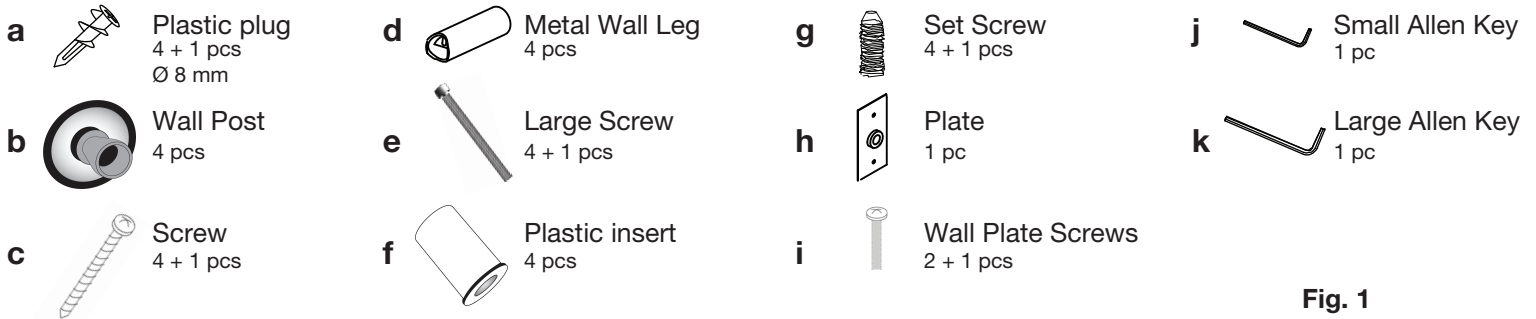

Fig. 1
Step 1: Verifying installation parts (Fig. 1)
Ensure all parts for mounting installation were supplied with your towel warmer (See Fig. 1). If any are missing, please contact us.